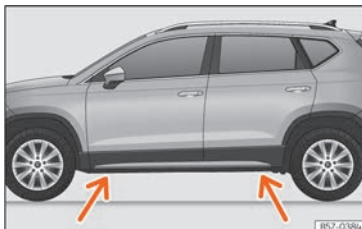

Fig. 38 Jack position points.
- Find the support point on the strut (sunken area) closest to the wheel to be changed » » Fig. 38.